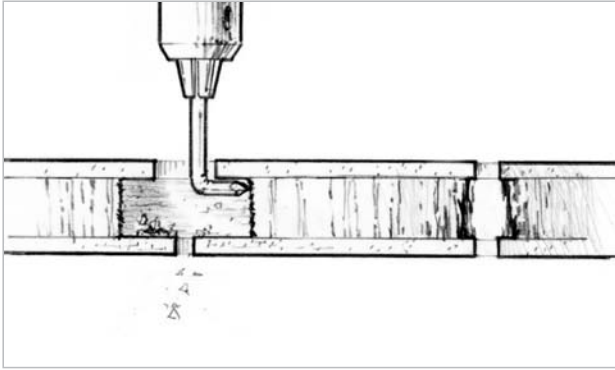

Figure 7-2 Remove about ½" (12mm) of core material around the hole with a bent nail or an Allen wrench chucked into a drill motor.
2. Clean out the fastener holes and remove a portion of the core around the hole. Re-drill holes with an oversized bit or enlarge holes with a round file to increase bonding area. Drill through the outer skin and core only. Remove about ½" (12mm) of core material around the hole with a bent nail or an Allen wrench chucked into a drill motor (*Figure 7-2*). The spinning nail or Allen wrench will pulverize the core material without damaging the skins, provided you are careful.